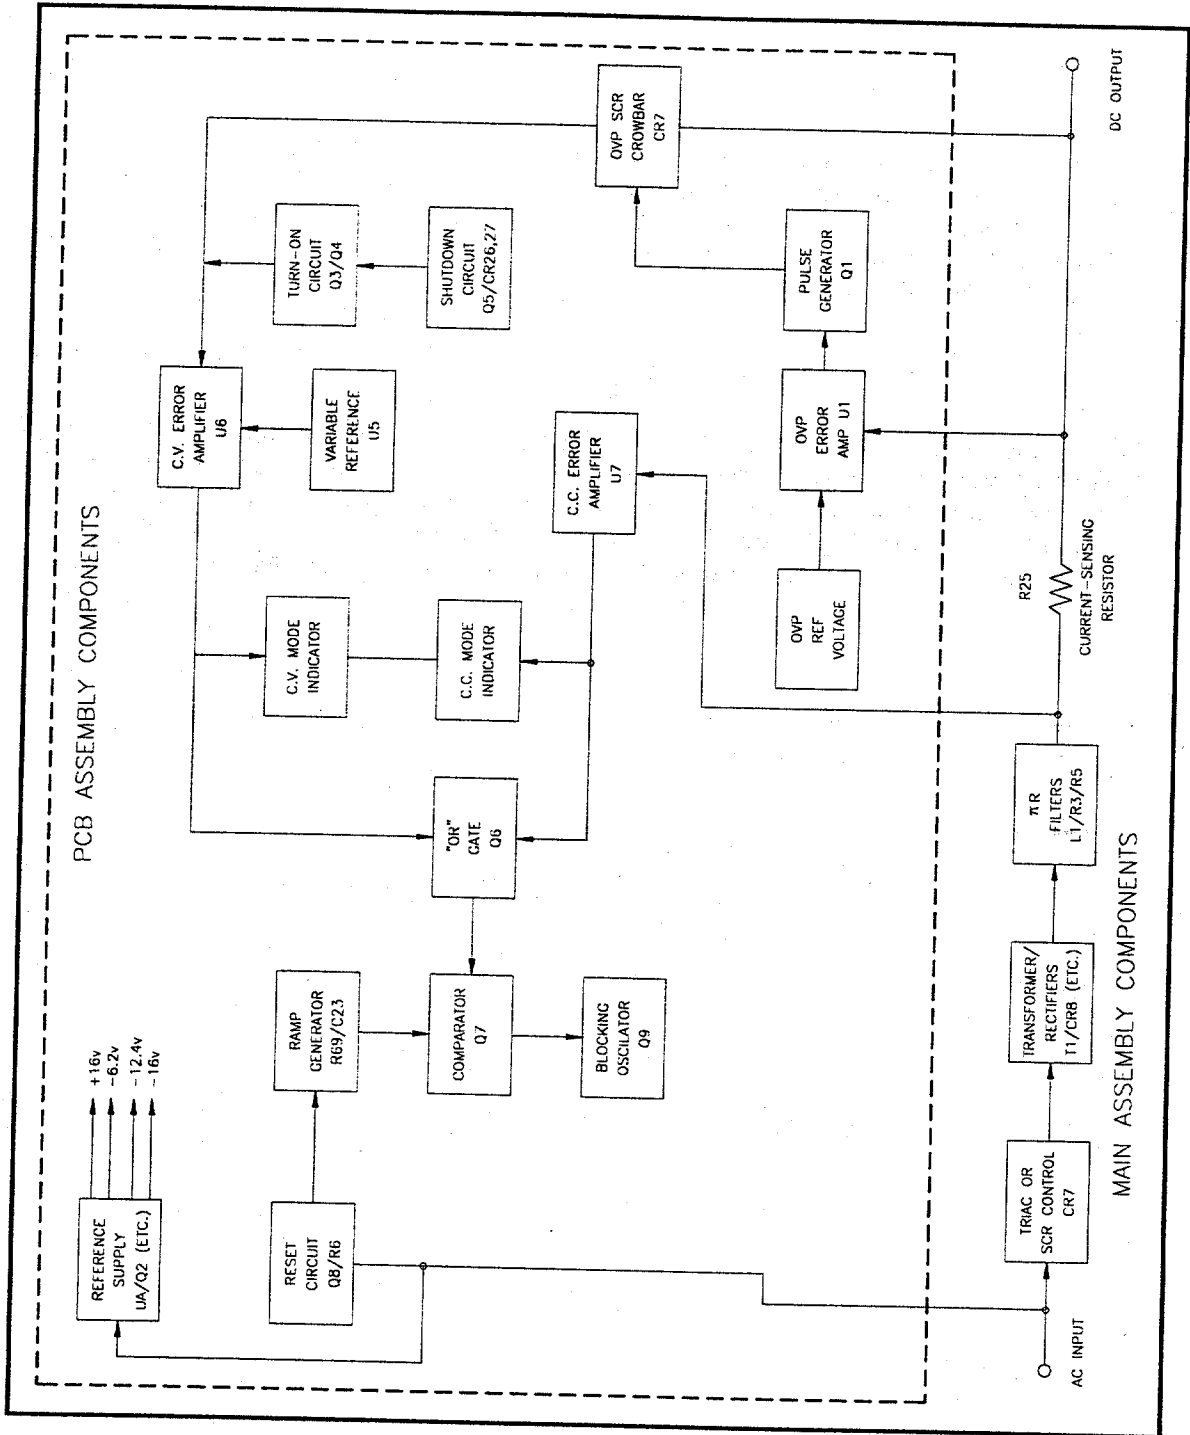

Figure 1-2 DCR-B2 Functional Block Diagram
1.3 BLOCK DIAGRAM ANALYSIS (FIGURE 1-2)